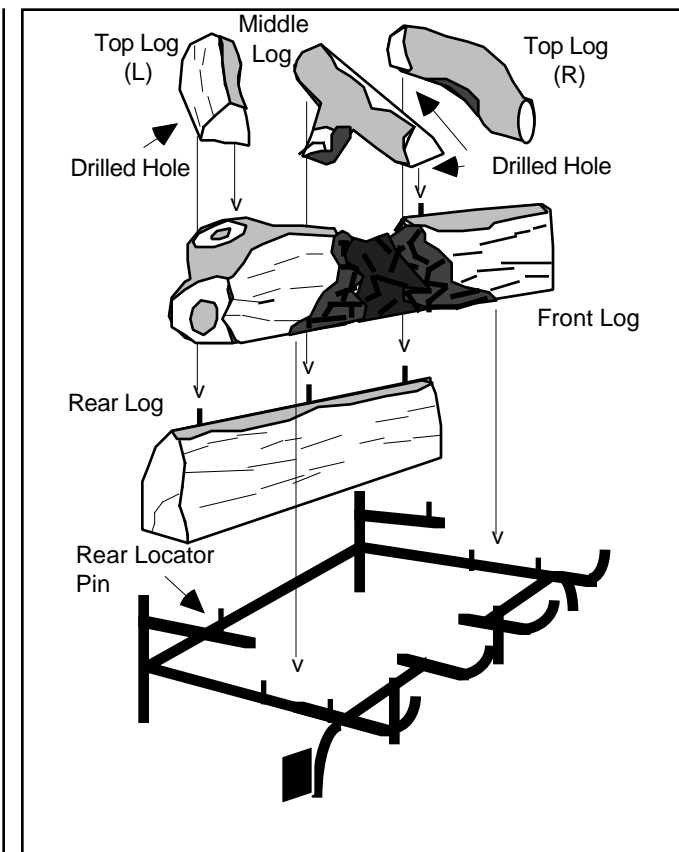

Figure 7
- Maintain log positioning as shown in Figures 7 and 8 at all times.